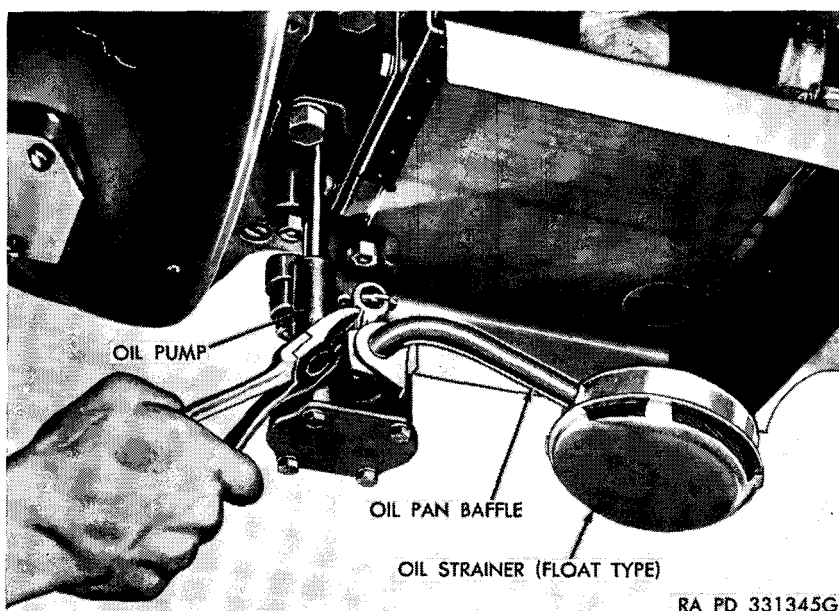

Figure 42. Removing oil pump strainer.
- (2) *Remove oil pump strainer.* Remove cotter pin holding oil strainer in oil pump body (fig. 42). Slide float and strainer assembly out of oil pump.
- (3) *Inspect strainer.* Inspect strainer to see that oil has not entered the float chamber. Shake assembly to detect presence of oil in float. If oil is found in float chamber, strainer must be replaced. If no oil is found in float, wash strainer thoroughly in dry-cleaning solvent or volatile mineral spirits paint thinner and blow dirt from strainer mesh.